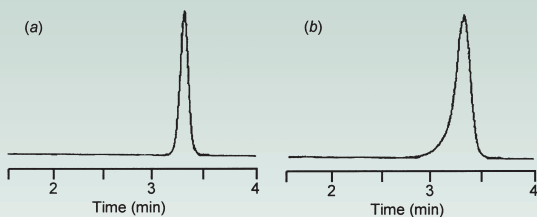

Figure 5. Peak fronting due to channelling in column. (a) normal peak shape; (b) fronting peak. Adapted from [2].
Most silica columns are stable in the pH range 2-8. Below pH 2, the bonded phase hydrolyzes; above pH 8, the silica can dissolve. If you operate the HPLC system outside this pH range, be sure to select a column that is designed to be stable under the selected conditions. Peak fronting due to channelling within the column is illustrated in Figure 5. A normal peak is shown in Figure 5a; after ≈ 500 injections, peak fronting (Fig. 5b) was observed. This change was characteristic of the method and often appeared suddenly, from one run to the next. Once fronting peaks appeared, the only effective fix was to replace the column. The column was a 100x2.1 mm i.d. column packed with 5 μm C18 particles. Mobile phase A was 10 mM ammonium bicarbonate (pH 9.0); B was methanol (MeOH). The method comprised an isocratic elution segment at 5% B followed by an 80% B flush. This particular column was designed to work with up to 100% water mobile phases and was not endcapped. Endcapping helps to protect the silica from dissolution as the mobile phase pH is increased. In this case, the column was used with a mobile phase pH well above its recommended range and lacked protective endcapping. The silica gradually dissolved at pH 9 until the column bed structure was no longer stable and the bed shifted, causing a void or channel, which in turn resulted in the fronting peaks of Figure 5b. This problem could have been avoided by using a lower mobile phase pH or selecting a column that was stable at higher pH.
2.2. Column chemistry changes will occur over the lifetime of the column and generally are gradual over several weeks or months. Column ageing usually is accompanied by rising column backpressure, gradually shifting retention times (longer or shorter) and more peak tailing. Exchange the column for a new one to confirm a column-ageing problem. Column lifetimes of 500-2000 injections should be considered satisfactory; at this point, the cost contribution of the column to the overall analysis is small, so replacement is justified easily. If the column lifetime seems unacceptably short, carefully examine the operating conditions to be sure that they are reasonable for the column. Figure 5 shows an example of short column lifetime due to extreme operating conditions.